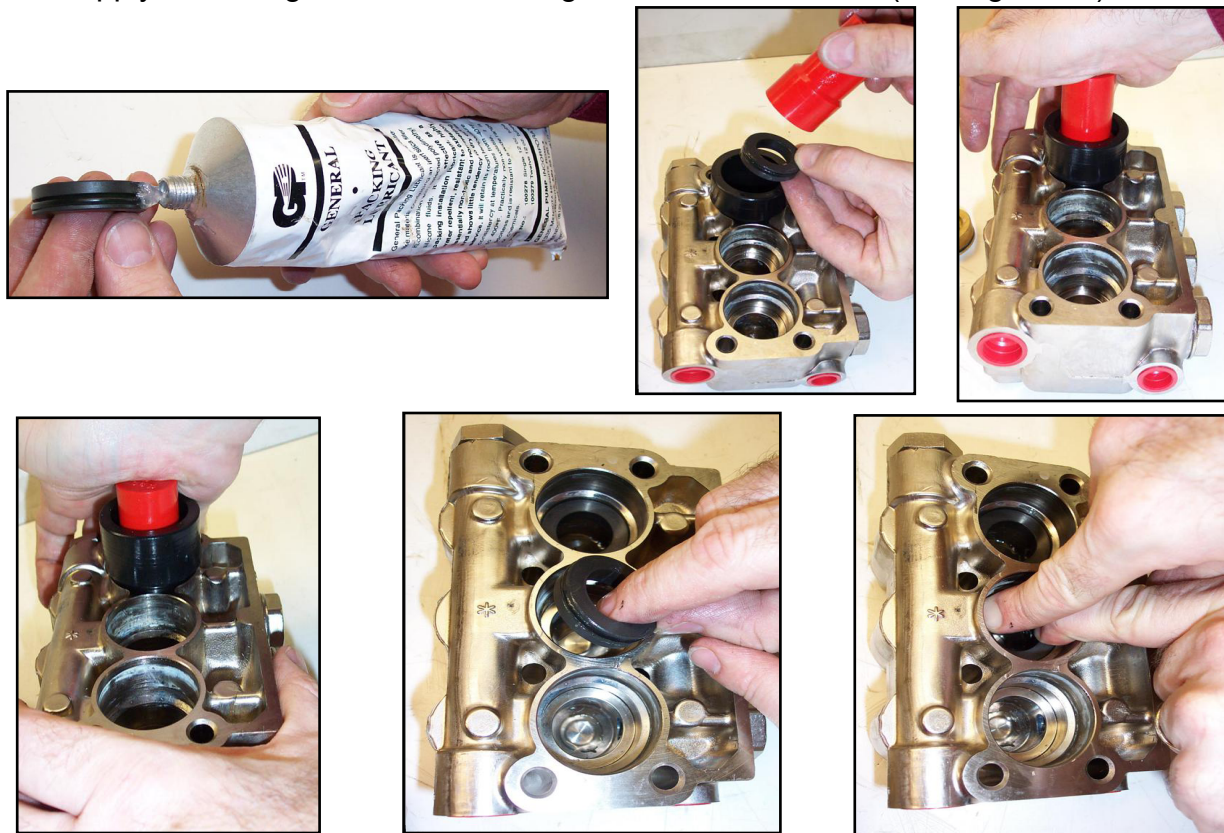

Figure 12. Install Seal Assembly Using O-Ring Grease
4. Apply a film of grease on the O-ring on the brass retainer (see Figure 12).